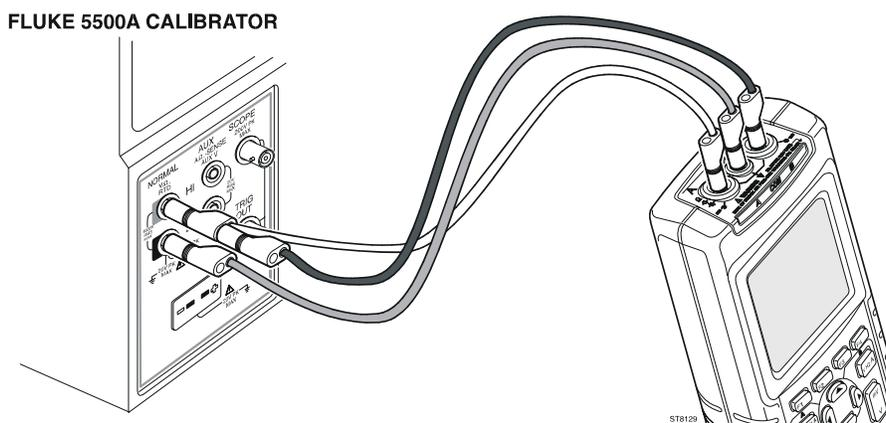

Figure 4-7. Volt Gain Calibration Input Connections 500V
10. Connect the test tool to the 5500A as shown in Figure 4-7.